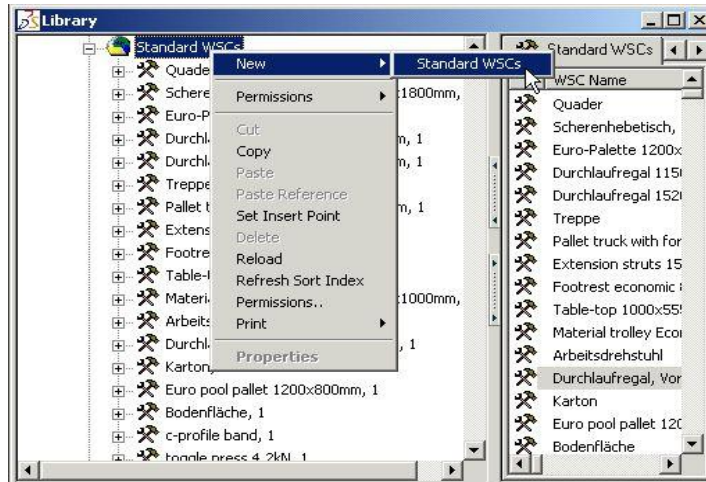

Figure 47: Example – Creating own System Items
- 3) Open the context menu and click **Standard WSCs**. Please refer to the Figure 47.